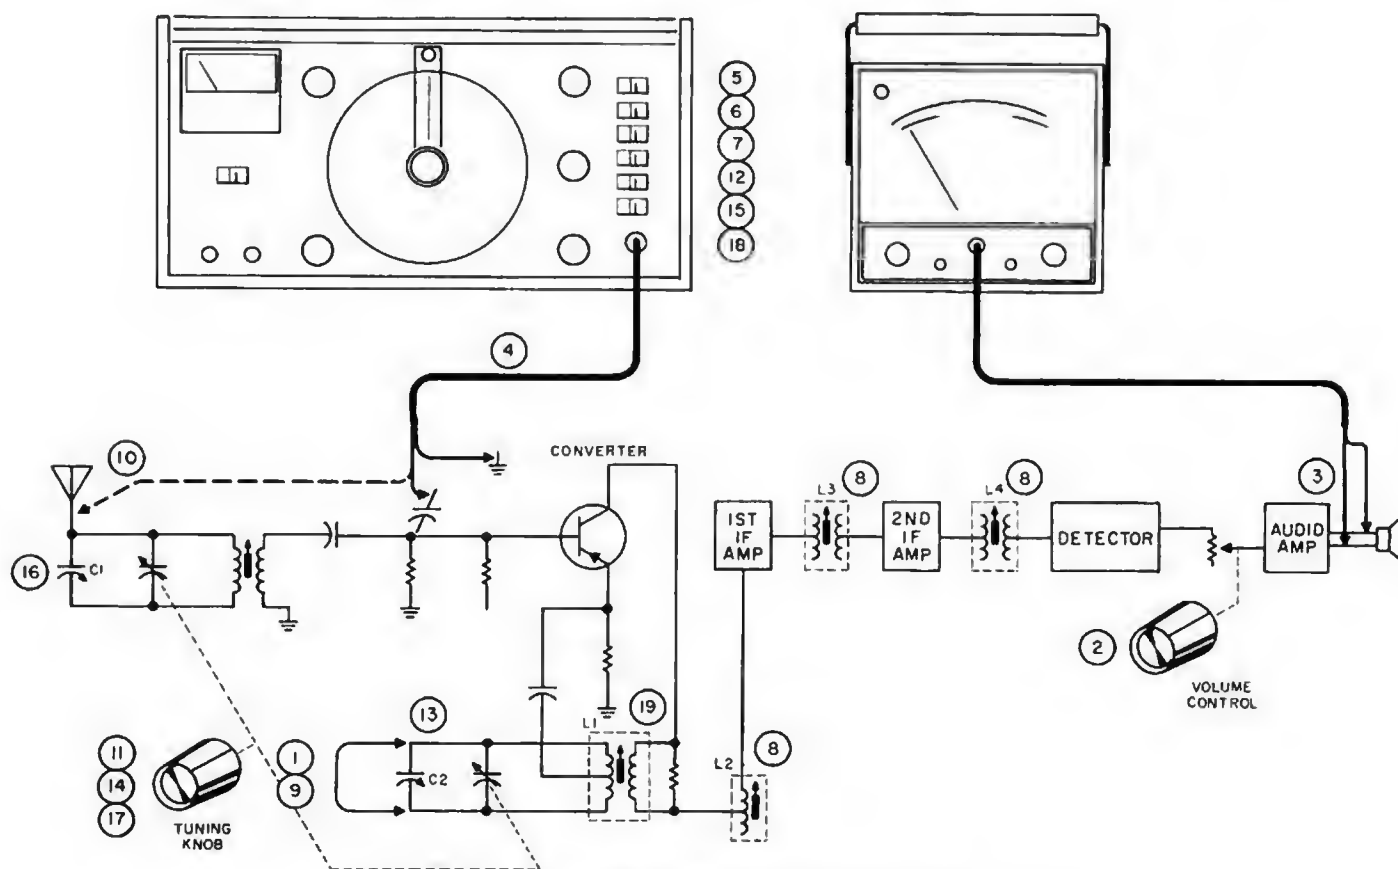

Figure 4. Typical AM Broadcast Band Receiver Alignment
(Refer to Figure 4)
8. Starting at the detector and working toward the antenna, adjust each of the i-f coils for maximum meter reading on the VTVM (in Figure 4, adjust L4, L3, then L2 in that sequence). Reduce the signal generator output level as required to maintain suitable meter reading and speaker volume. REPEAT THE ADJUSTMENTS UNTIL NO FURTHER IMPROVEMENT CAN BE OBTAINED.